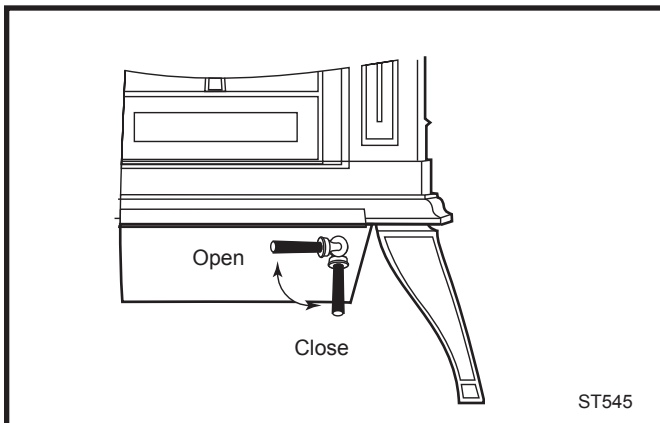

Fig. 36 Turn the ashdoor handle clockwise to open and counterclockwise to close.
- Close the griddle or doors, and unlatch the ash door. (Fig. 36) It will pivot, swinging the ash pan out of the stove.